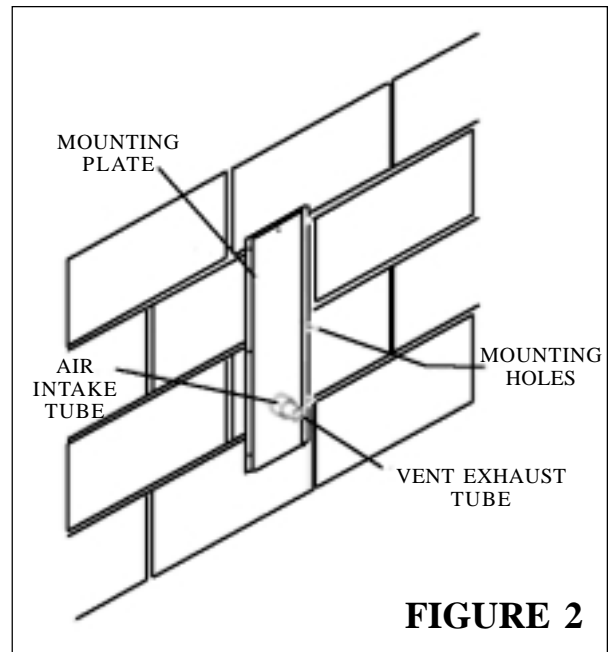

FIGURE 2
- STEP 3.** Place the mounting plate over the air intake tube and slide back flush against wall. Mark the location of the six mounting holes on wall. See Figure 2.